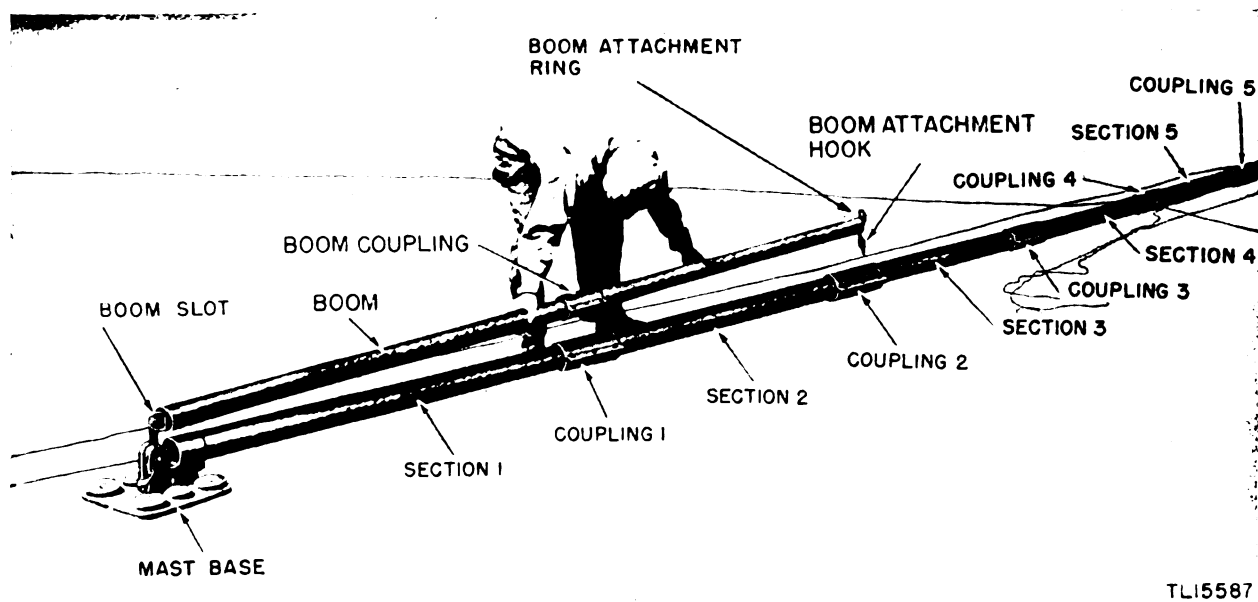

Figure 10. Attaching boom and mast shoe assembly.
- (1) Attach the antenna clamp to the mast at section 3, near coupling 2.
- (2) Pull the halyard through the pulley in the mast head cap assembly, even up the two ends, and fasten to the boat cleat on the mast shoe at the base of the unit. If properly set, antenna clamp will line up with pulley in the mast head assembly.
b. Insert the slotted shaft at the bottom end of the boom into the pin in the metal strip welded at right angles to the mast shoe (fig. 10). Lay the boom down atop the mast proper. Be certain that the ring on top of the boom is above the adjacent snap hook.